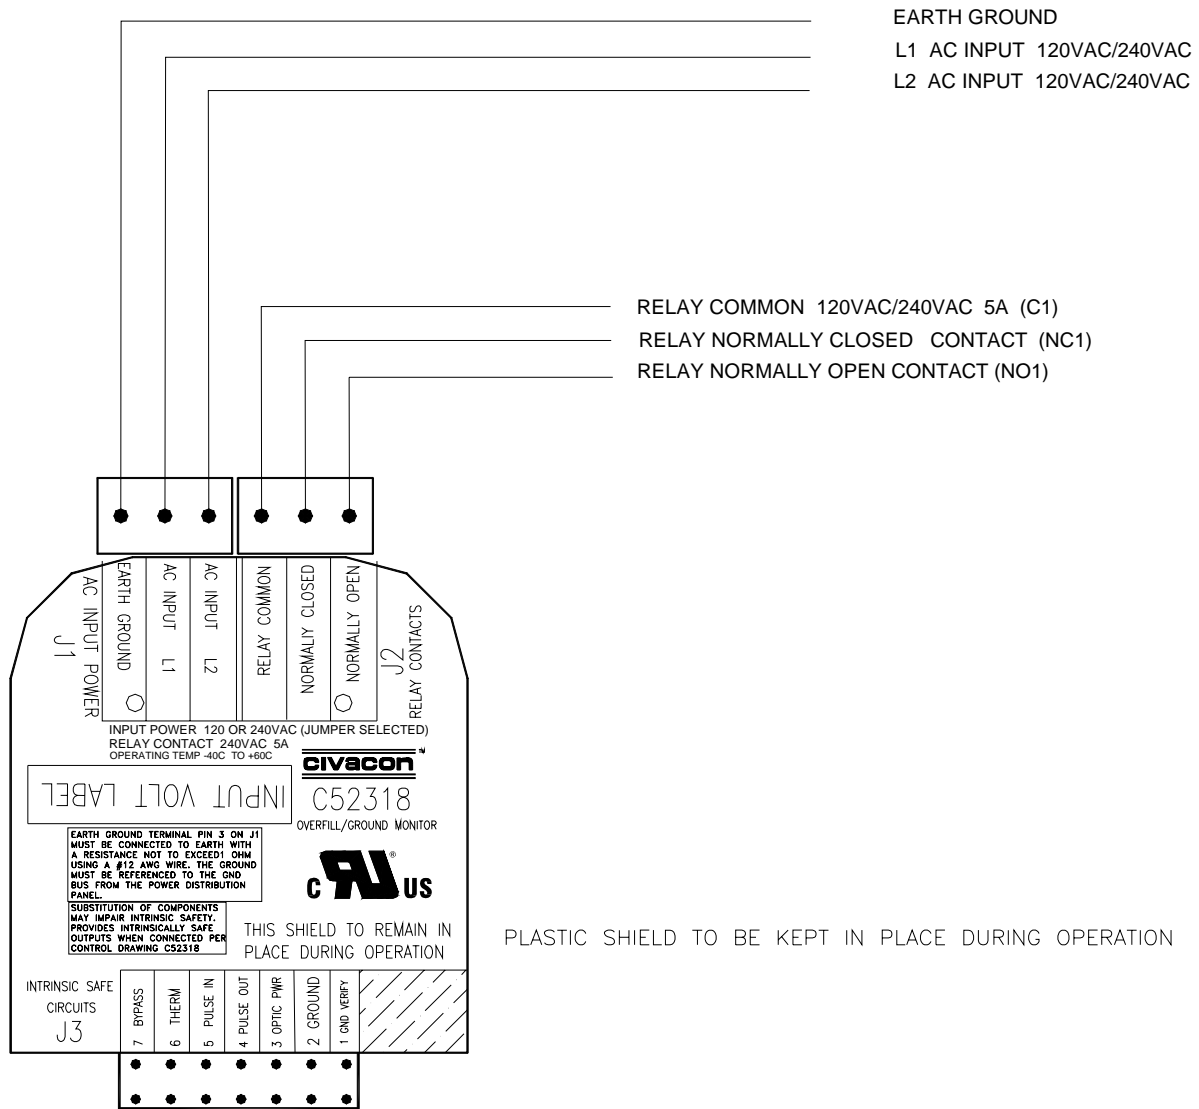

FIGURE 3 - POWER WIRING
Three terminals are provided for the control channel output on the monitor. These are C1 (COMMON 1), NC1 (Normally Closed 1), and NO1 (Normally Open 1), Form C type contacts. The proper control signal source must be wired to these terminals. It is suggested that the control signal source be wired into the C1 (COMMON 1) terminal, as it is the fused control terminal. The wire going to the controlled device should then be connected to the NO1 (or NC1 if applicable) contact of the terminal strip. See notes for Figure 3 concerning contacts C1, NC1, & NO1.
The monitor must be wired according to Figure 3.
1. Before applying AC line power to the 8130 Series Rack Monitor, perform a visual inspection of the power and control wiring according to Figure 3.